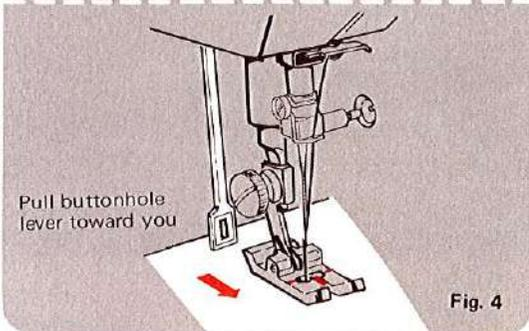

Fig. 4
3. Press buttonhole lever toward you. (See Fig. 4)